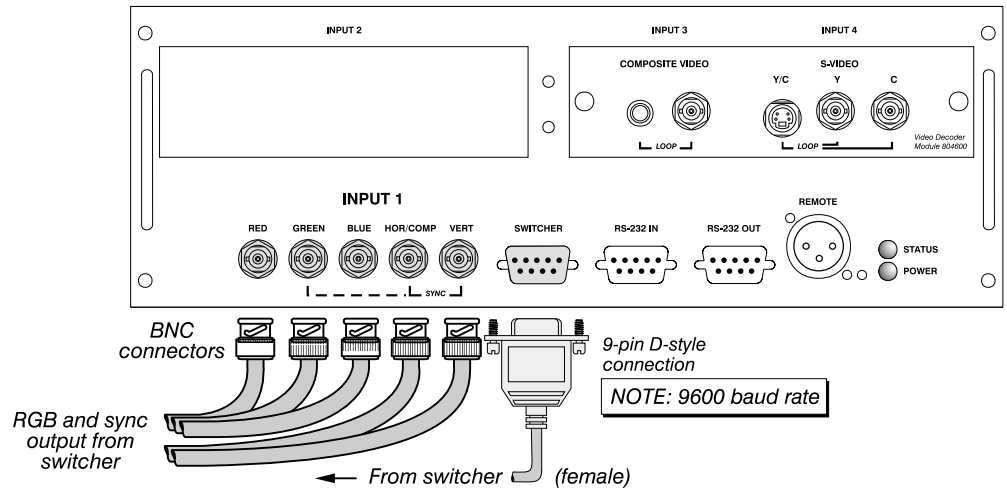

Figure 2.20. Connecting a Marquee Signal Switcher
➤ You may wish to use one or more external *Marquee Signal Switchers* or a third party switcher in order to significantly increase the number of sources you can select. If you are using a *Marquee Signal Switcher*, connect the switcher’s RGB output to **INPUT 1** and connect an RS-232 serial communication cable between the switcher and the projector serial port labeled **SWITCHER** (see Figure 2.20). The switcher communication link (permanently set at 9600 baud) enables you to access inputs connected to the switcher in the same manner as those connected directly to the projector. For most other third-party switchers, connect and access sources according to the documentation provided with that switcher. Use high-quality shielded cables.
▶ If you are using more than one *Marquee Signal Switcher*, daisy-chain the RS-232 switcher inputs/outputs together to form a complete network of inputs accessible from the projector (you can network up to 9 switchers), and connect Switcher #1 to the projector as shown in Figure 2.20. In addition, connect the RGB output from each switcher to its matching slot on switcher #1—for example, connect the RGB output from switcher #2 to slot #2 on switcher #1, and the RGB output from switcher #3 to slot #3 on switcher #1. Note that slots used in this manner on switcher #1 are no longer recognized as inputs to the projector—if you select a slot location that is connected to another switcher’s RGB output, the projector will display the “no input signal” error message.
If using a switcher ➤ You may wish to use one or more external *Marquee Signal Switchers* or a third party switcher in order to significantly increase the number of sources you can select. If you are using a *Marquee Signal Switcher*, connect the switcher’s RGB output to **INPUT 1** and connect an RS-232 serial communication cable between the switcher and the projector serial port labeled **SWITCHER** (refer back to Figure 2.20). The switcher communication link (permanently set at 9600 baud) enables you to access inputs connected to the switcher in the same manner as those connected directly to the projector. For most other third-party switchers, connect and access sources according to the documentation provided with that switcher.